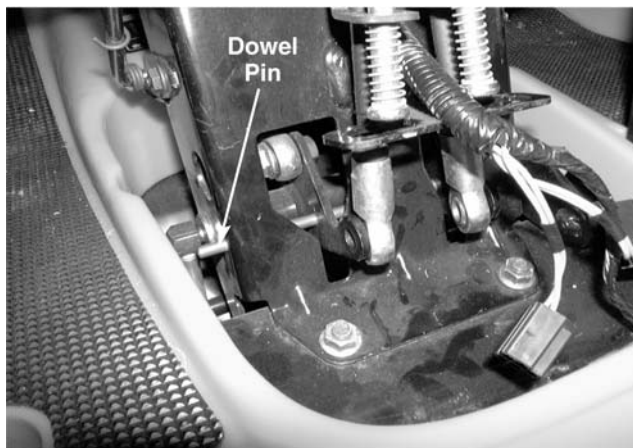

Figure 10-13.
21. Raise the front of the foot board body high enough to insert a 1/4" by 7" dowel pin or equivalent through the lower alignment hole of the support tower, through the lower left and right bellcrank assemblies, and out the opposite side of the support tower. See Figure 10-13.